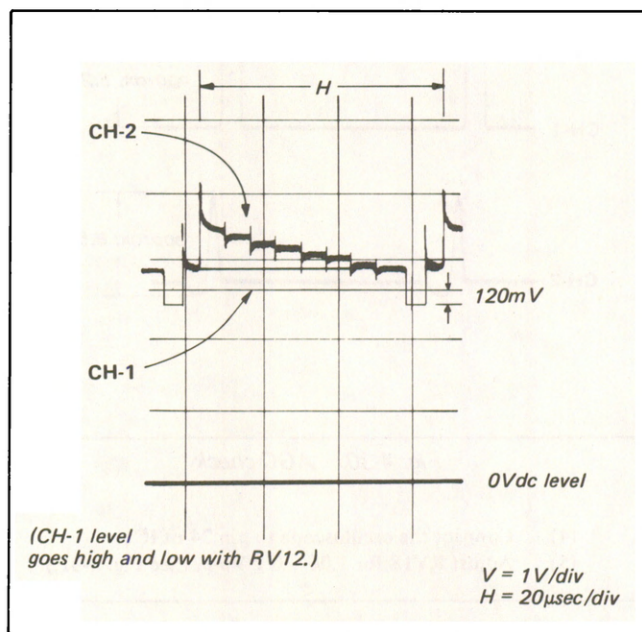

Fig. 4-37. Dark clip adjustment
- (1) Supply the color bar signal and set up the RECORD mode.
- (2) Connect the oscilloscope CH-1 probe to the Q13 collector and the CH-2 probe to TP5. Set the scope to the DC range and arrange its zero levels.
- (3) Adjust RV11 so that the difference between the CH-1 level and the CH-2 sync tip is 120 mV. (See Fig. 4-37.)